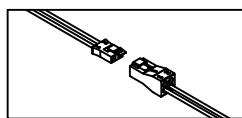

Fig. 9 LED Feed Connectors.
- Move adjacent segment next to BOR segment in the ceiling cutout. Find LED feed connectors on both adjoining segments and connect them (Fig. 9).